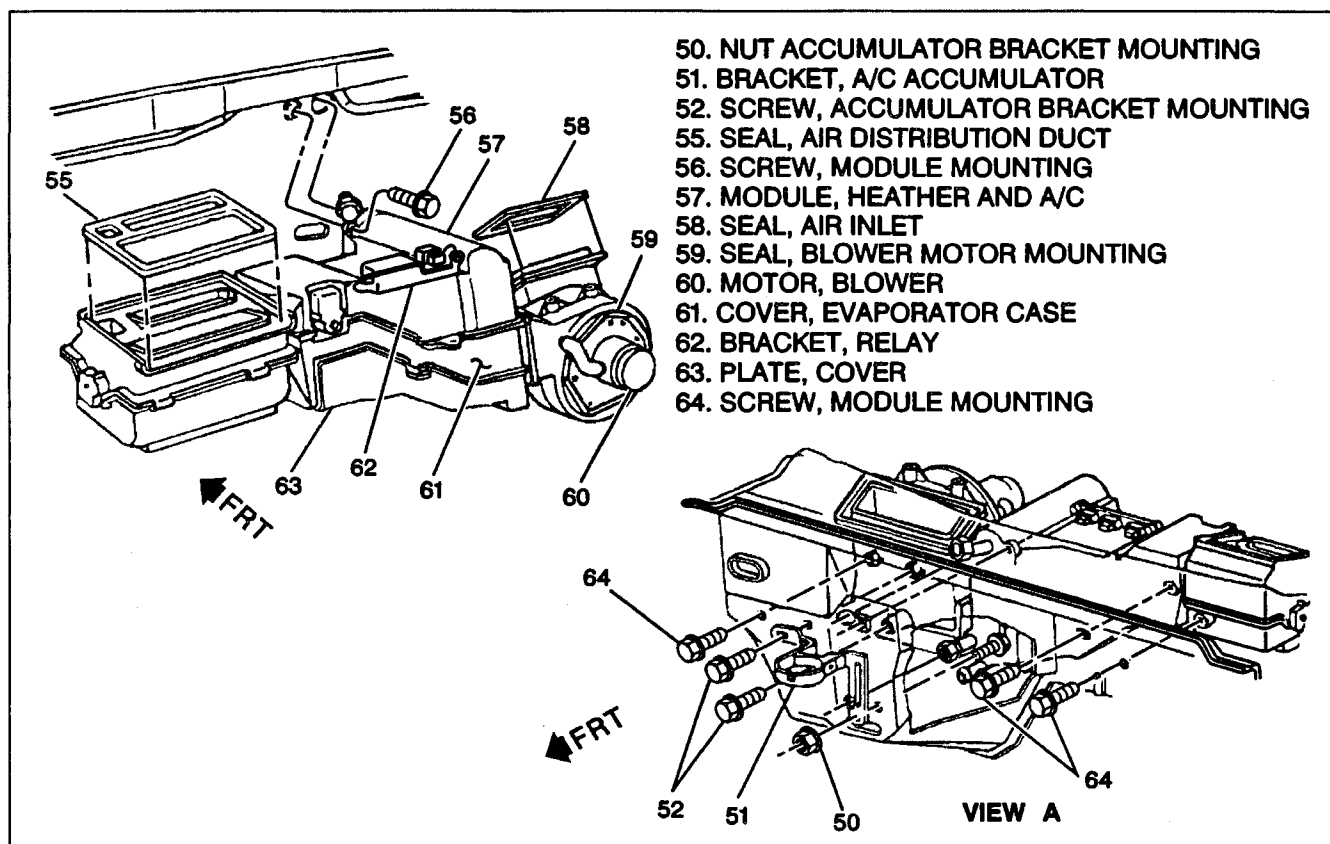

Figure 38—Evaporator/Heater Core Case
EVAPORATOR CORE**Remove or Disconnect (Figure 38)**
18. Nut (50).
19. Screw (56).
20. Module assembly (57).
21. Evaporator case bottom cover plate (63).
23. Evaporator case cover (61).
**Install or Connect (Figure 38)**
2. Evaporator case cover (61).
4. Evaporator case bottom cover plate (63).
5. Module assembly (57).
6. Screw (56).
7. Nut (50).
Remove or Disconnect (Figure 38)
Install or Connect (Figure 38)